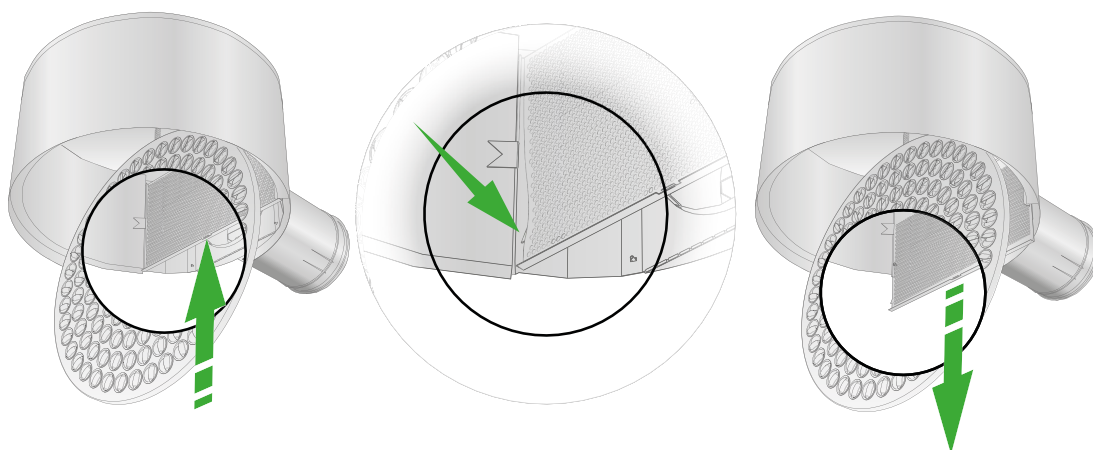

Figure 4. Dismantling of the perforated air distribution plate.
- Dismantle the perforated air distribution plate located on the inlet as shown in figure 4. Use in extract air version: If necessary, the perforated air distribution plate can be dismantled, performed in connection with installation or commissioning.